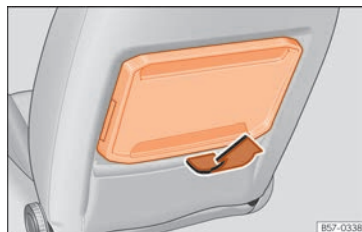

Fig. 136 Front left seat: folding table.
- Pull the table up, in the direction of the arrow, until it catches »» Fig. 136.